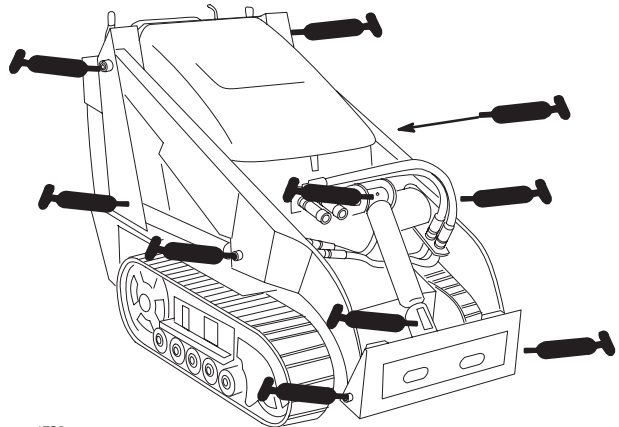

Figure 42
3. Connect a grease gun to each fitting (Fig 42 and 43).